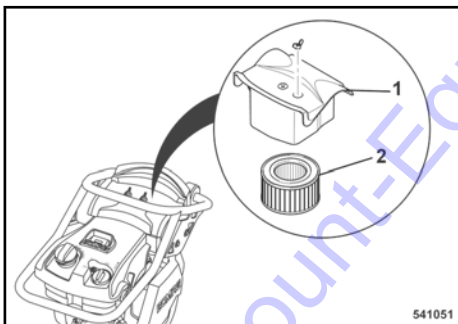

Fig. 47
Remove the air filter cover (1) ↪ Fig. 47 and take off the filter cartridge (2).